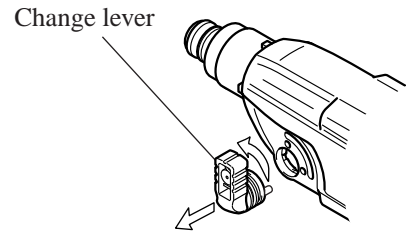

Fig. 2A
2. Turn the change lever fully to the direction of rotary hammer mode and pull off change lever from gear housing as illustrated in Fig 2A.
2. Aligning change lever with the rotary hammer mode, assemble it by pressing to the assembling hole as illustrated in the above Fig. 2A. And assemble cap by pressing to change lever.